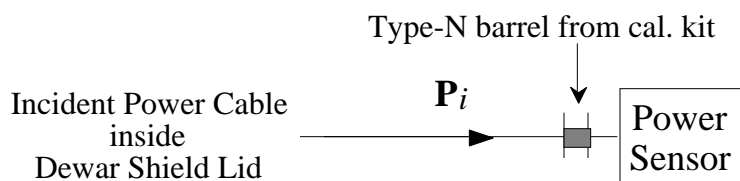

Figure 2. Incident Power Cable Calibration Setup
15. Connect the Power Sensor to the appropriate Incident Power (1/2" Heliax) cable as shown in Figure 2.